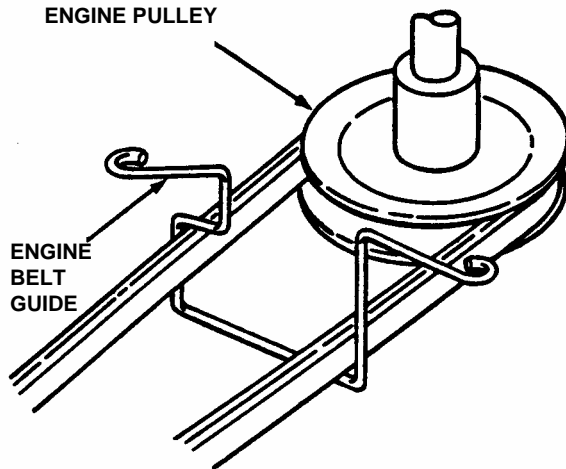

FIGURE 4.12
7. To clear the primary chain case, move transmission shift lever to the #5 position. Route belt around drive disc and into drive pulley belt groove. See Figure 4.12.